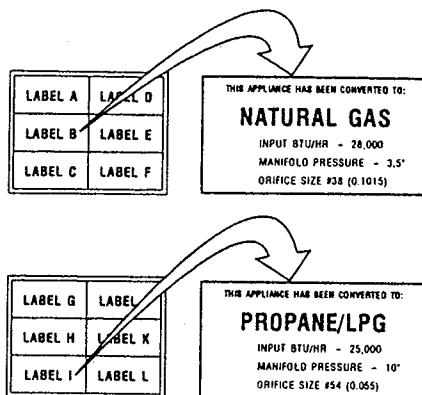

Figure 37
**Step 8.** Attach conversion kit label to the rating plate on the appliance; Label B for units converted to natural gas or Label I for units converted to propane (Figure 37).